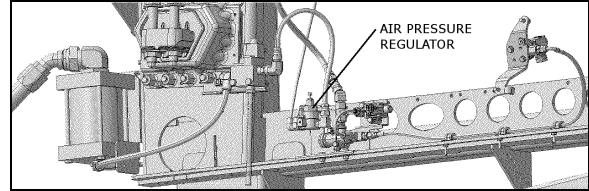

FIGURE 9: AIR PRESSURE REGULATOR (TYPICAL) 07130
18. Adjust the retarder pressure to  $85 \pm 3$  psi with the air pressure regulator. For more information refer to Section 12, "BRAKE AND AIR SYSTEM", under heading "AIR PRESSURE REGULATOR". The air pressure regulator is located in the engine compartment, on engine cradle R.H. side (Fig. 9).